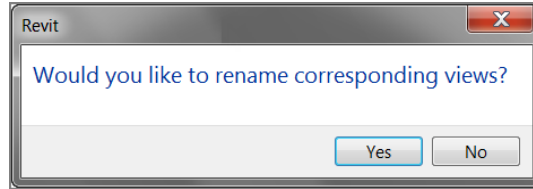
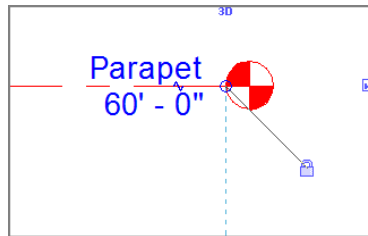

FIGURE 3.11: Click Yes to rename corresponding views.
FIGURE 3.12: The renamed level
- Revit asks whether you want to rename any corresponding views. Click Yes (see Figure 3.11). Level 7 is now the Parapet level, as shown in Figure 3.12.